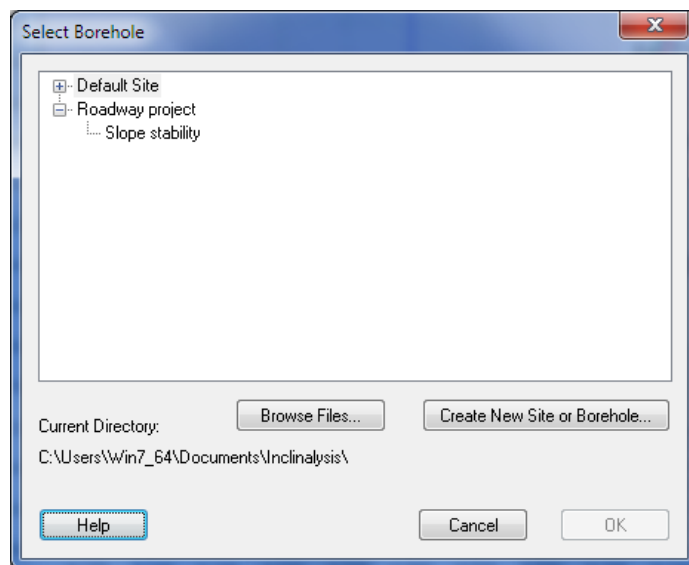

FIGURE 6-7 BOREHOLE SELECTION
- 5 You will be returned to the Borehole Selection screen (Figure 6-7). If the correct folder has been chosen (see Section 5), a list of all the current site names will appear. Pressing the **+** button to the left of each site will expand to show all the boreholes contained under that particular site.
- 6 For example, Figure 6-7 shows a single site (the Roadway Project), which contains a single borehole, in this case named “Slope Stability”. Highlight the desired borehole (in this case, “Slope Stability”) and press **OK**.